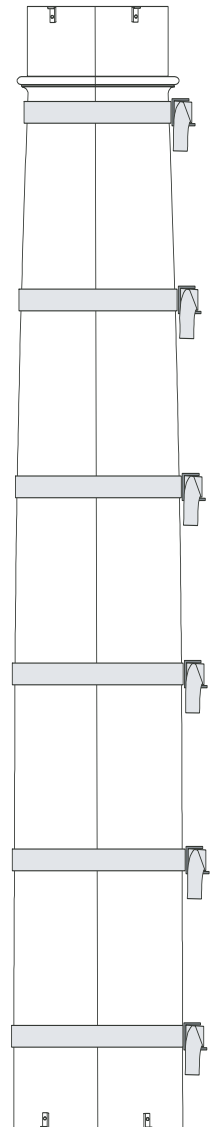

fig. 2
6. Place shaft halves in position around existing support. Align carefully, then apply band clamps evenly spaced (fig. 2). Do not over tighten. Immediately remove any excess adhesive from the joint.